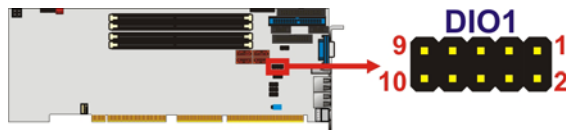

Figure 3-6: DIO Connector Location
- CN Location:** See Figure 3-6